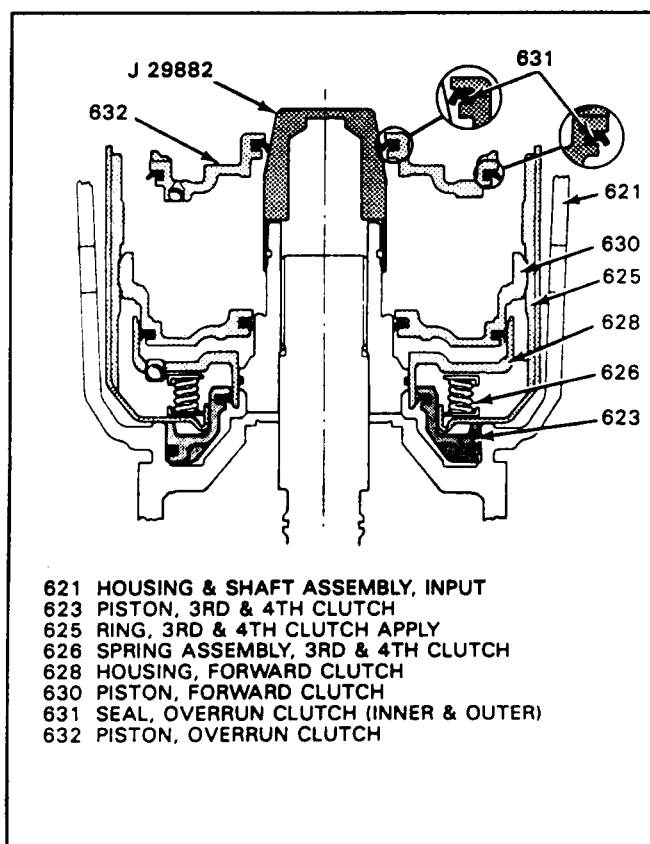

Figure 118
12. Install the inner and outer lip seals on the overrun clutch piston in the direction shown in Figure 118, with the lips facing down.
13. Install the overrun clutch piston into the housing using tool J-29882, shown in Figure 118.